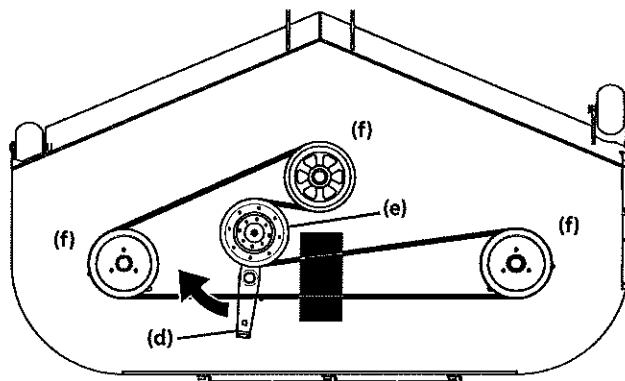

Figure 34
- Using a 1/2" (12.7 mm) drive insert the end into the 1/2" (12.7 mm) square opening in the deck idler assembly (d) and rotate the deck idler assembly clockwise. See Figure 34.
- Route the new belt around the idler pulley and the spindle pulleys as shown in Figure 34.